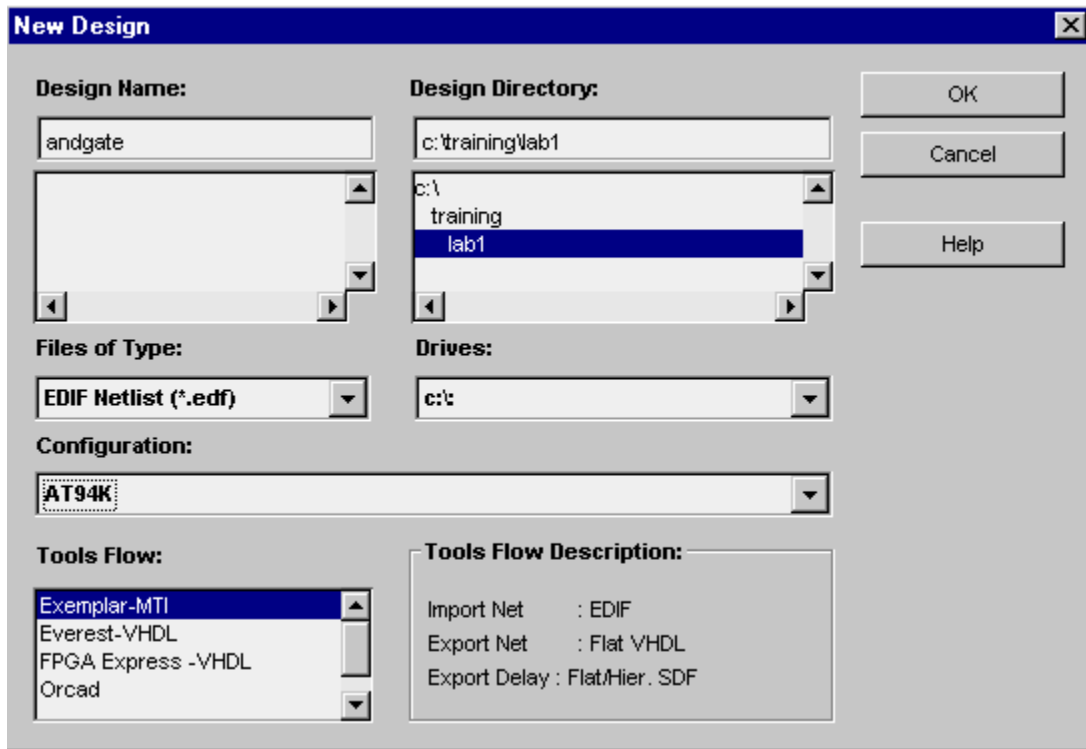

Figure 04 New Design
7. Complete the fields as shown in **Figure 04**.